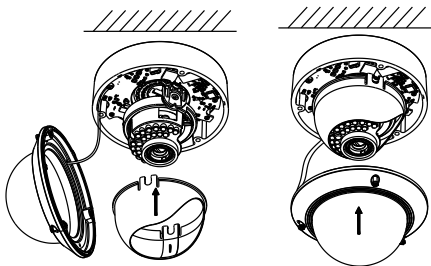

Figure 2-4 Secure Black Liner and Cover/Bubble
10. Install the cover/bubble onto the camera and secure it with the cover attachment screws as shown in Figure 2-4.